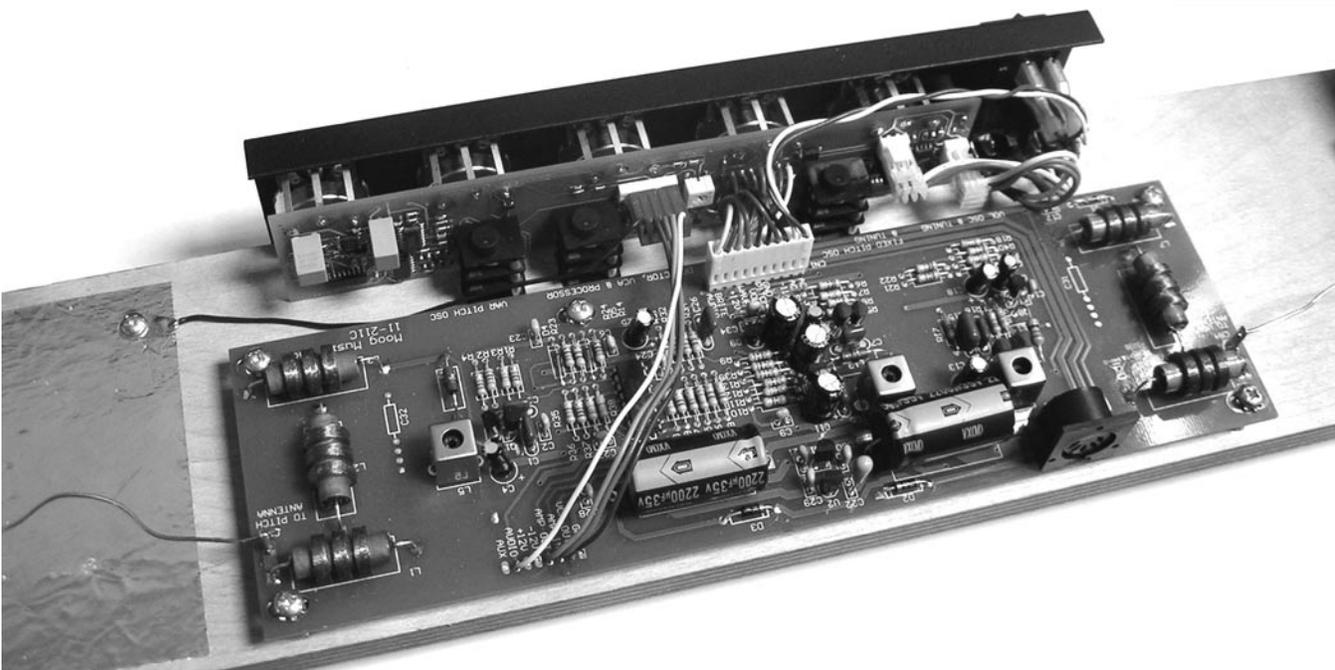

figure 8
- 14) Make the following connections (final result shown in figure 8):